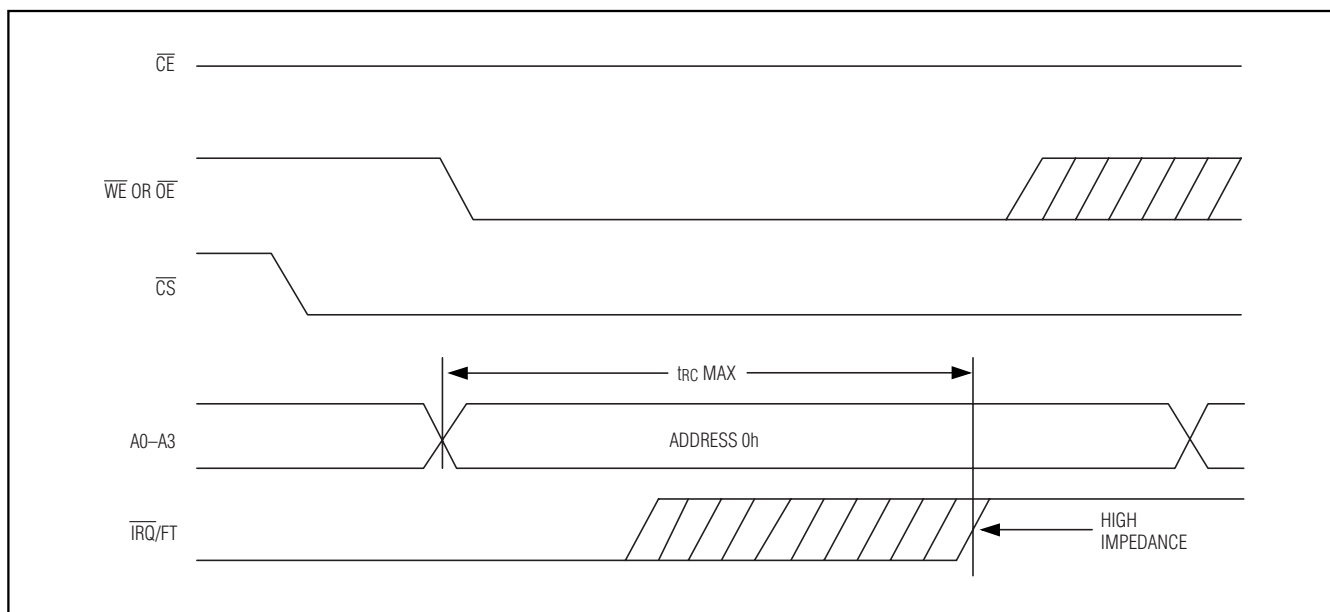
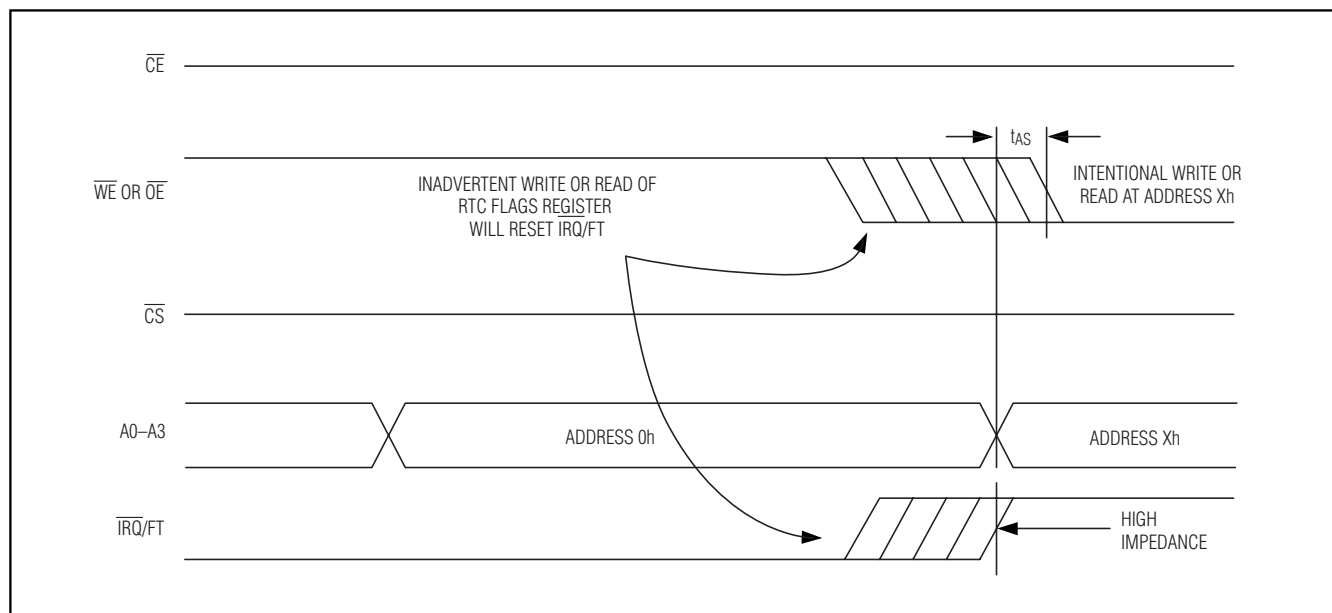

Figure 1. Clearing Active IRQ Waveforms
Figure 2. Prevent Accidental Clearing of IRQ Waveforms
When the RTC register values match alarm register settings, the alarm flag (AF) is set to a 1. If AE is also a 1, the alarm condition activates the $\overline{\text{IRQ/FT}}$ output. When $\overline{\text{CS}}$ is active, the $\overline{\text{IRQ/FT}}$ signal can be cleared by holding the **FLAGS** register address stable for t_{RC} and forcing either $\overline{\text{OE}}$ or $\overline{\text{WE}}$ active (see Figure 1). The flag does not change state until the end of the read/write cycle and after the $\overline{\text{IRQ/FT}}$ signal has deasserted. To avoid inadvertently clearing the $\overline{\text{IRQ/FT}}$ signal while preparing for subsequent write/read cycles at other register addresses, assure that t_{AW} is met for that subsequent address (see Figure 2).